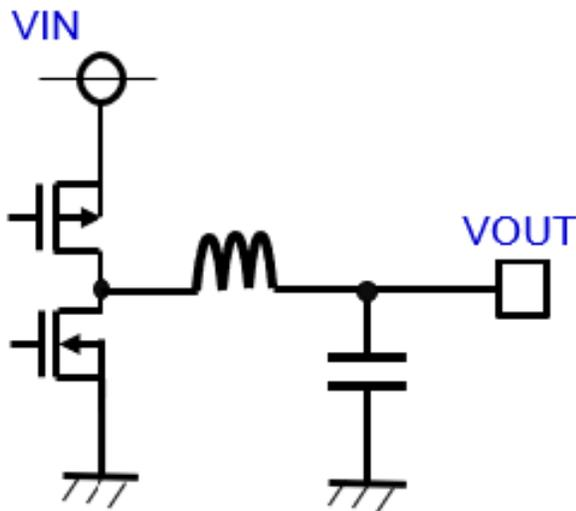

Figure 30. Inductive regulator
- Figure 30 shows an inductive regulator called a buck converter. The inductor between the switching node to VOUT would prevent a transient change of current if a hard short happened.